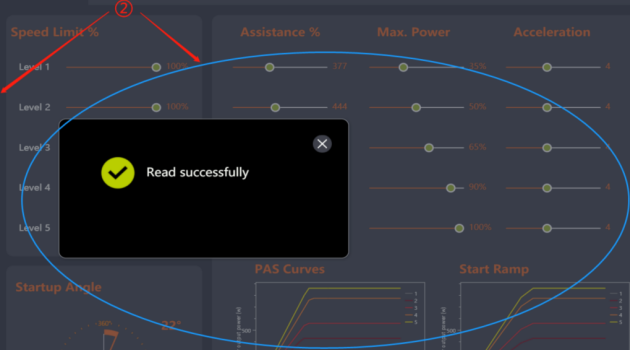

Fig 5-12 Read
2. After reading successfully, each parameter is displayed as a number, slider etc. (Figure 5-12).